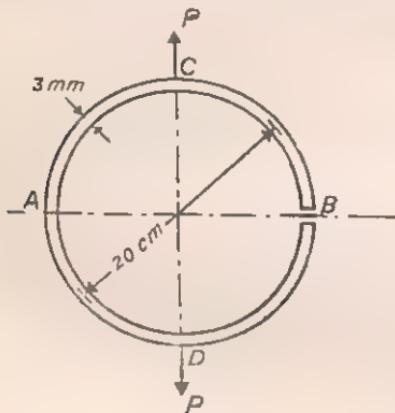

Fig. 47
26. The ring shown in Fig. 47 is made of flat steel strip $20 \text{ mm} \times 3 \text{ mm}$ and is shaped in the form of a circle of mean diameter 20 cm . The ends at B are cut square and not joined. A pull P is applied along the diameter CD which is at right angles to the diameter AB . If the maximum tensile stress due to P is $1,250 \text{ kg/cm}^2$, find the increase in the opening at B . $E = 2 \times 10^6 \text{ kg/cm}^2$. (Lond. Univ.)